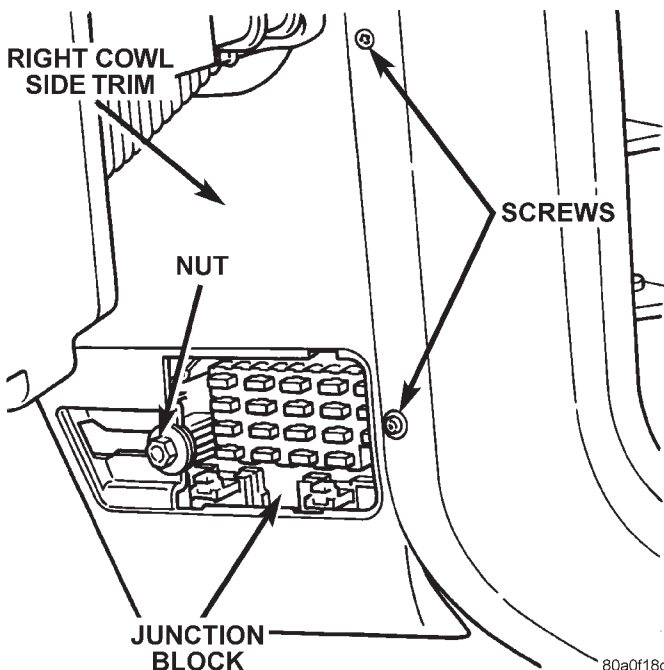

Fig. 18 Right Cowl Side Trim Remove/Install
(6) Remove the fuse access panel in the right cowl side trim panel, and remove the nut securing the trim to the junction block (Fig. 18).
(7) Remove the two screws securing the right cowl side trim panel to the front door opening trim and remove the cowl side kick panel trim.